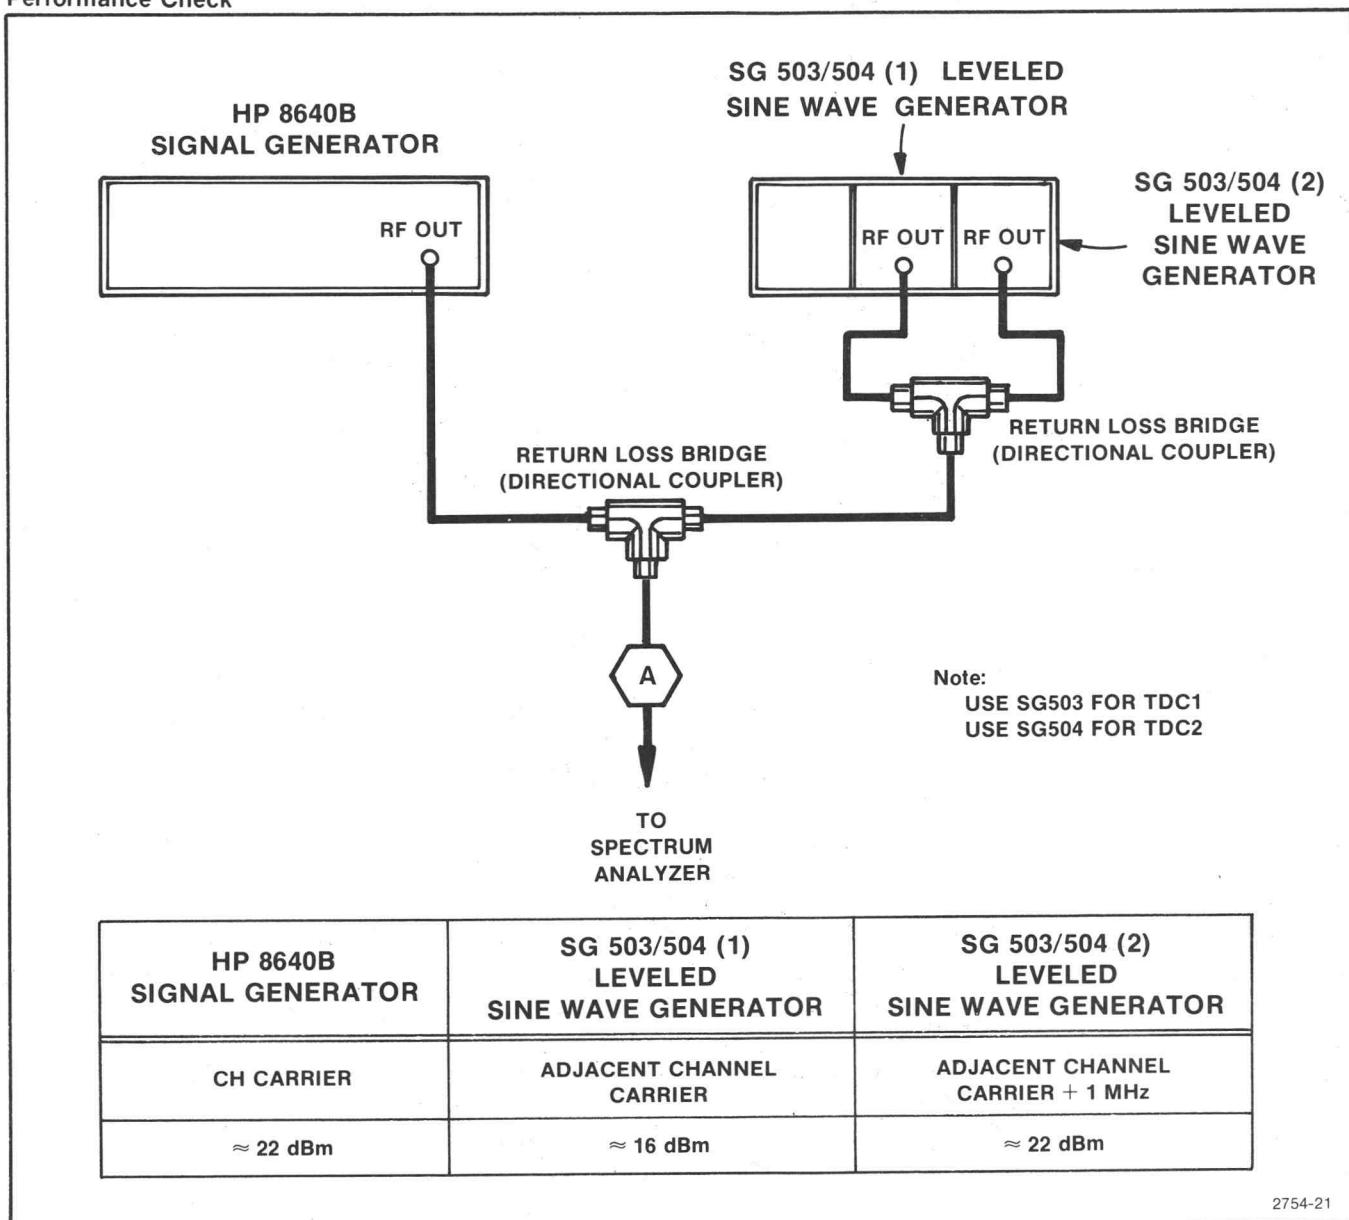

Fig. 4-10. Test Setup for Measuring Adjacent Channel Cross-modulation.
- a. Connect the test equipment as shown in Fig. 4-10, and tune the down converter to a specific channel. Use a spectrum analyzer such as a 7L13 to set the power levels at point 'A' in Fig. 4-10 according to the following table:
- b. Now connect point 'A' in Fig. 4-10 to the SYSTEM RF Input. Push in the 1450-1 Cont (Synchronous Detection